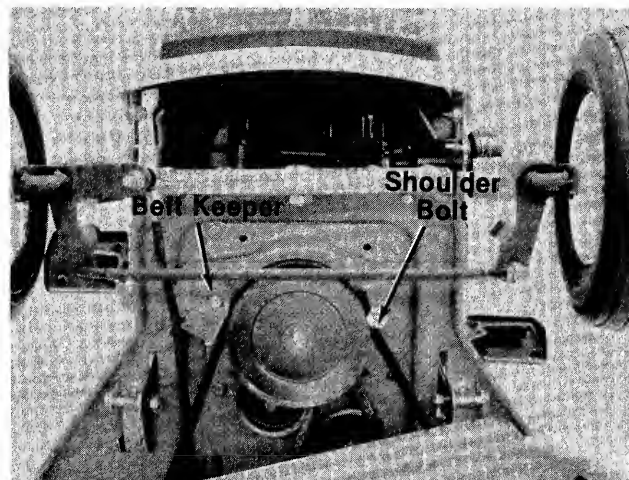

FIGURE 31.
2. Remove the belt keeper and shoulder bolt on the engine pulley. See figure 31.